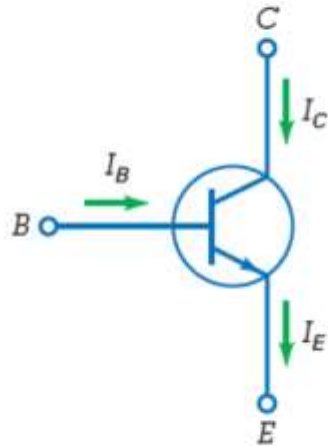

Figure 6-5 Free electrons from base flow into collector.
- ✓ Almost all the free electrons go into the collector, as shown in Fig. 6-5.